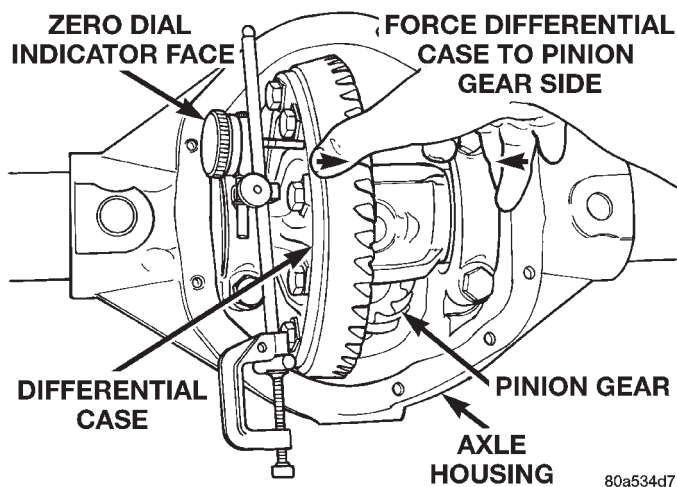

Fig. 68 Hold Differential Case and Zero Dial Indicator
(21) Push and hold differential case toward pinion gear (Fig. 68).
(22) Zero dial indicator face to pointer (Fig. 68).